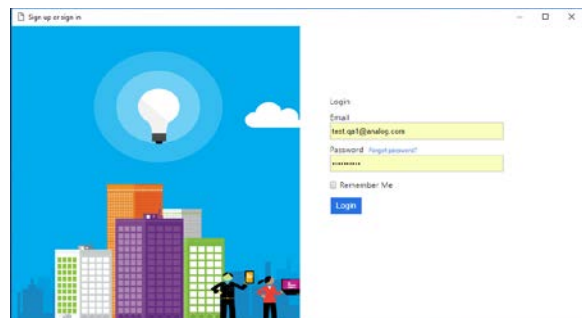

Figure 5. MeasureWare Account Log In
2. Log in to the MeasureWare account when prompted (see Figure 5).
After the MeasureWare Lab has confirmed that the hardware is connected to the PC, the user proceeds to the MeasureWare account log in page (see Figure 5). The log in details are the log in details created to access the MeasureWare Designer. If, for some reason, the user does not have an account, proceed to the MeasureWare Designer page to create an account and to generate a configuration file.